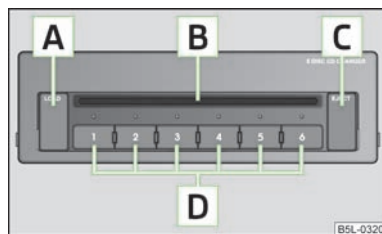

Fig. 113
- Touch the button **C** » Fig. 113 and guide the CD (compact disc) into the CD-case **B**. The CD is automatically loaded onto the lowest free position in the CD changer. The indicator light in the corresponding button **D** stops flashing. ➤